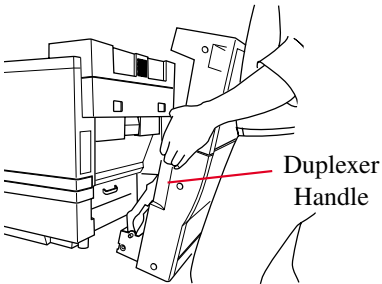

Fig. 3-42
1. While holding the handle, lift up the duplex unit (see Fig. 3-42).